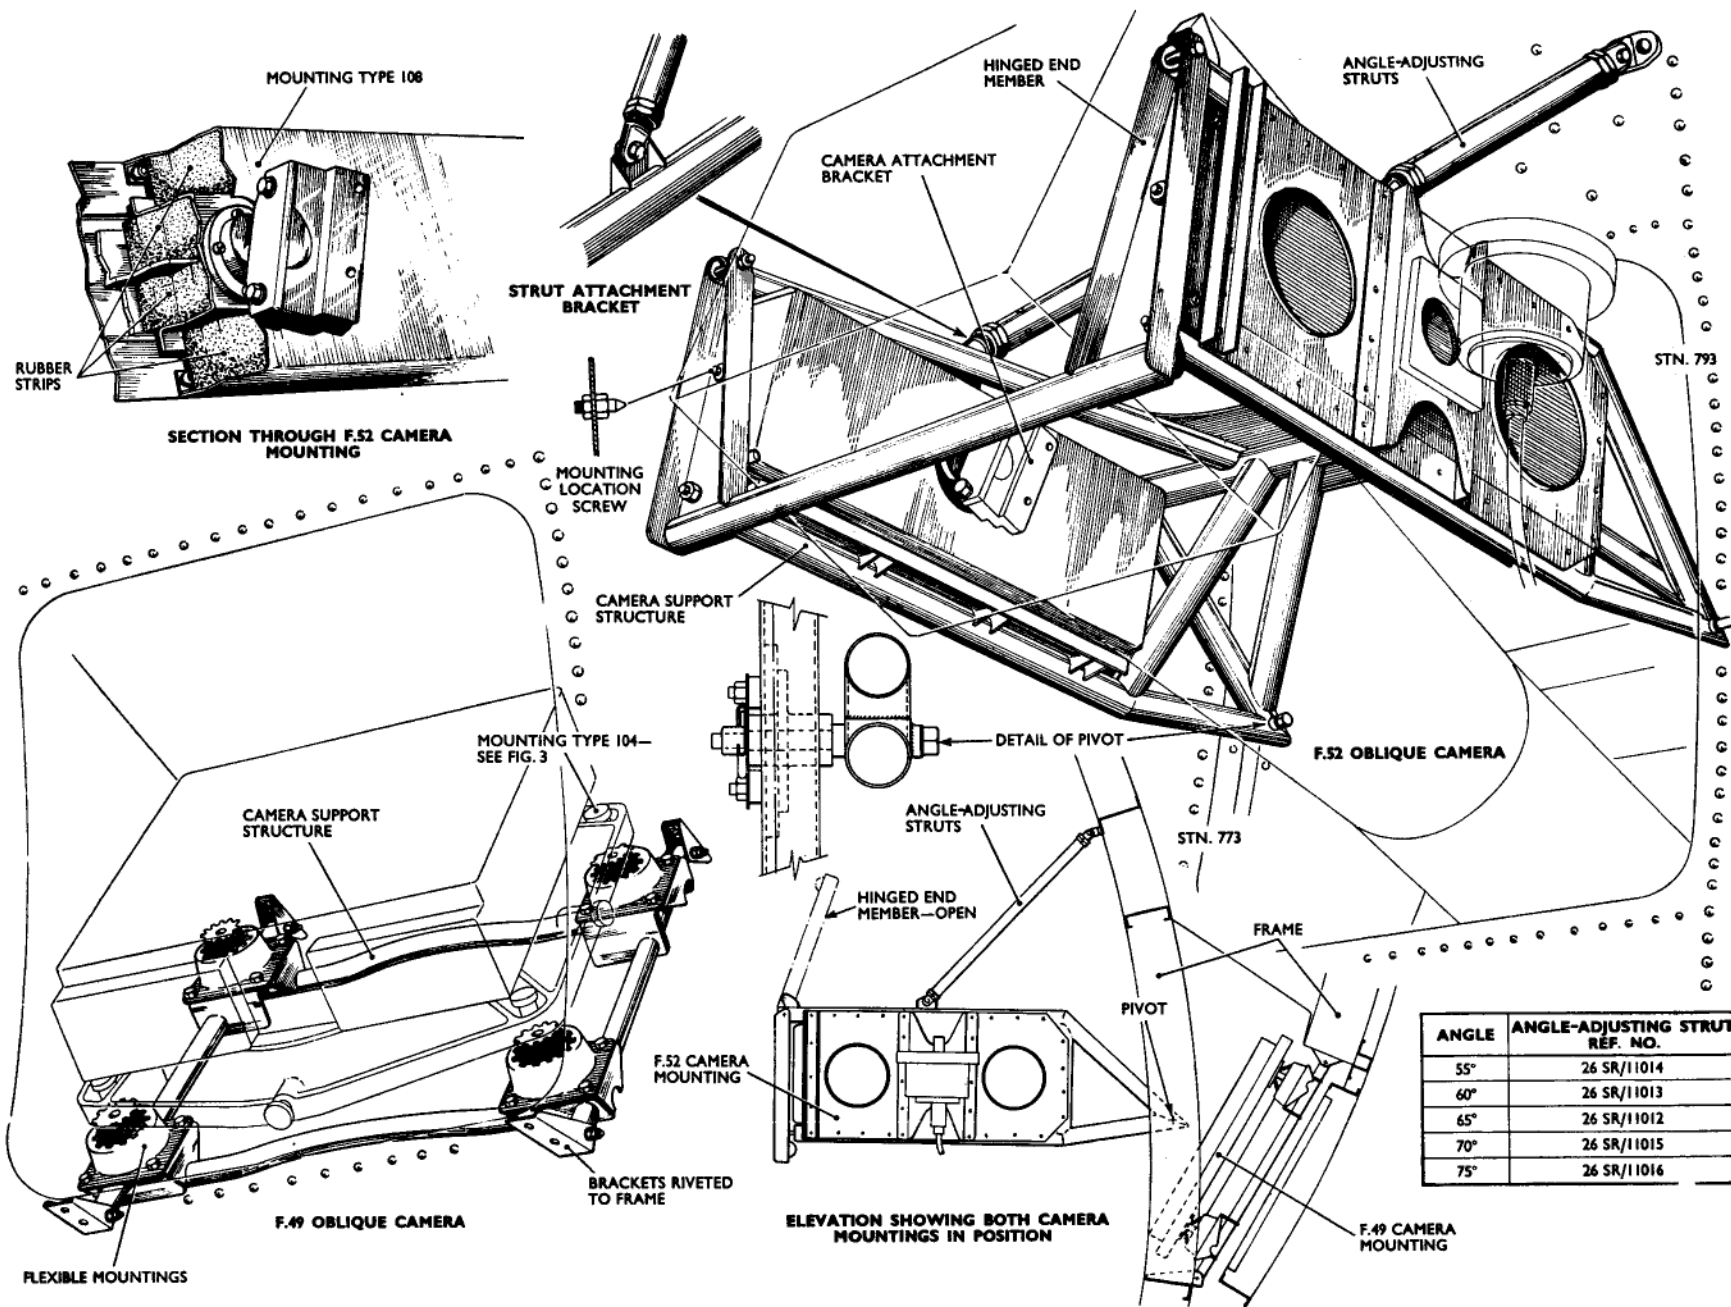

Fig. 4. Oblique camera installations
in a manner similar to that described in Chap. 5, para. 19. The microswitch cams must be adjusted to control the open and closed positions of the door, allowing 0.05 in. overtravel of the cam roller in the cam slot as shown in Chap. 5, fig. 4.
**Oblique camera mounting** (fig. 4)
13. *F.49 (Type 104 fixed mounting—Table 1, item 4).*—To install, proceed as follows:—
(1) Insert the pivot bolts through the tubular structure into the fitting at each side of the camera aperture at Stn. 773 and 793 on the bomb-bay wall.
(2) Bolt the angle-adjusting struts on the top of the mounting structure to the lugs on the bomb-bay wall, above the camera aperture. The camera angle adjustment is effected by the use of different length struts according to the angle required.
15. The camera attachment brackets are carried on anti-vibration mountings in the Type 108 mounting frame (fig. 4).